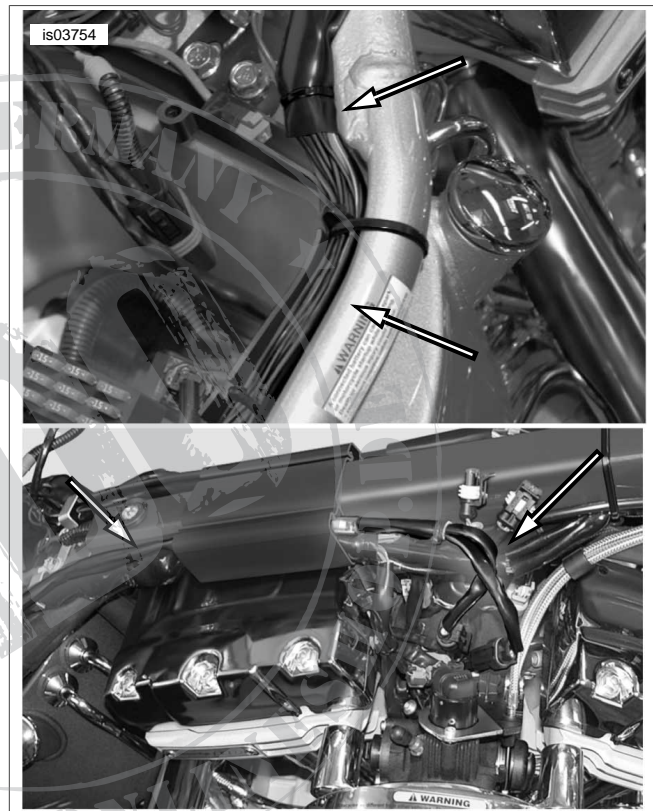

Figure 18. Cable Straps and Wire Routing (Softail)
5. See Figure 18. Reinstall cable straps provided in kit in original locations and as otherwise necessary, ensure: